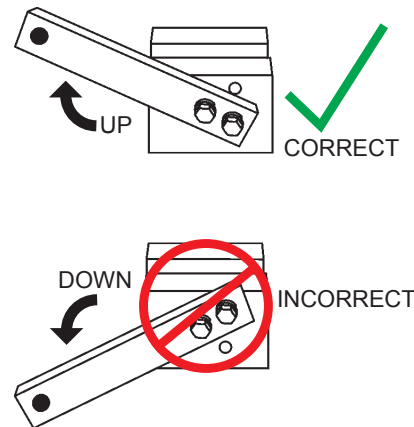

Figure 74. Fixture Arm Position (UP)
2. Make sure the fixture arm is in the **UP** position (Figure 74).